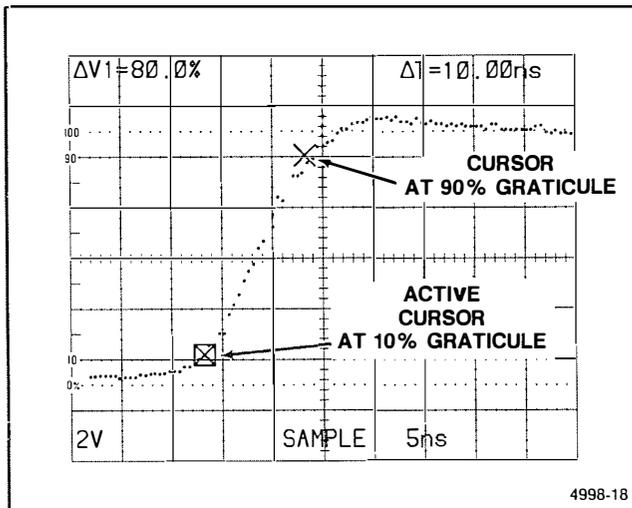

Figure 6-5. Rise time, cursor method.
- Push the SELECT C1/C2 button to select the other cursor, and use the CURSORS control to move the active cursor up the waveform's leading edge until the ΔV readout is 80% (see Figure 6-5).